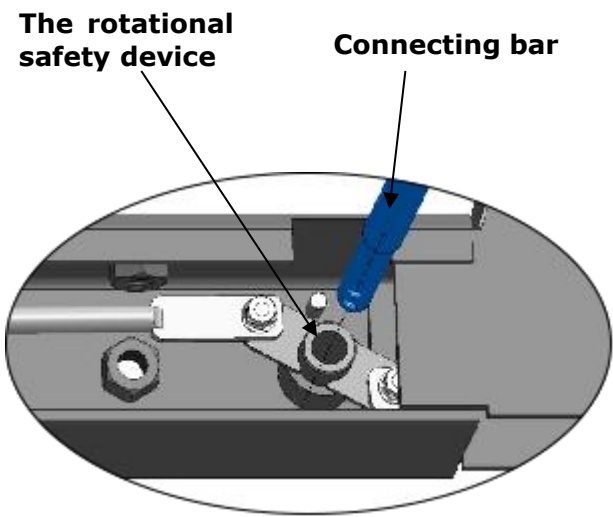

**Fig. 22**
3. Illustration for platform cables (See Fig. 22).